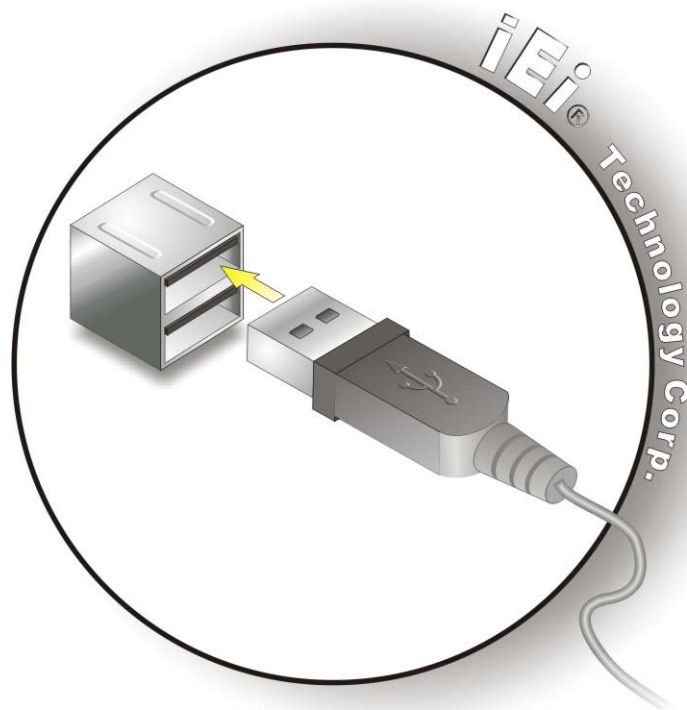

Figure 3-33: USB Device Connection
- Step 2:** Align the connectors. Align the USB device connector with one of the connectors. See **Figure 3-33**.